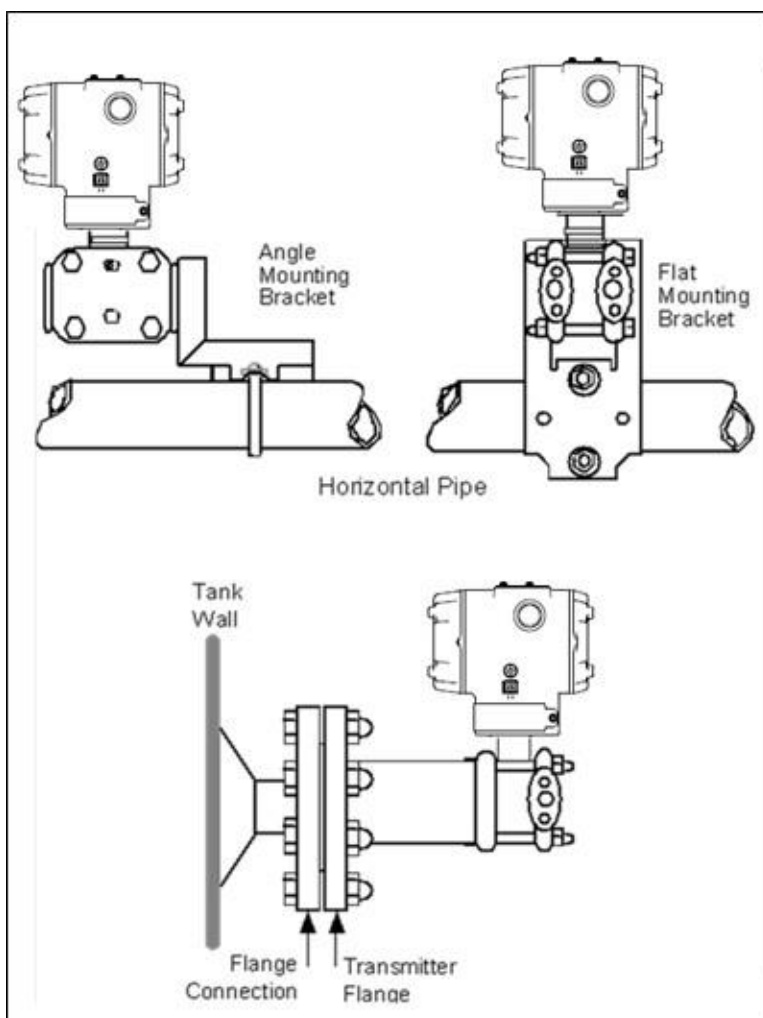

Figure 43 – ST 700 Basic Transmitter - Typical Bracket Mounted and Flange Mounted Installations
The transmitter nameplate mounted on the bottom of the electronics housing (see Figure 42) lists its model number, physical configuration, electronics options, accessories, certifications, and manufacturing specialties. Figure 43 is an example of a typical Gauge Pressure (GP) or Atmospheric Pressure (AP) transmitter name plate. The model number format consists of a Key Number with several table selections. The Differential Pressure (DP), Absolute Pressure (AP), and Gauge Pressure (GP) name plates are essentially the same. The DP model provides one additional entry (7 vs. 6) in the meter body selections (Figure 43) to accommodate the static pressure rating.